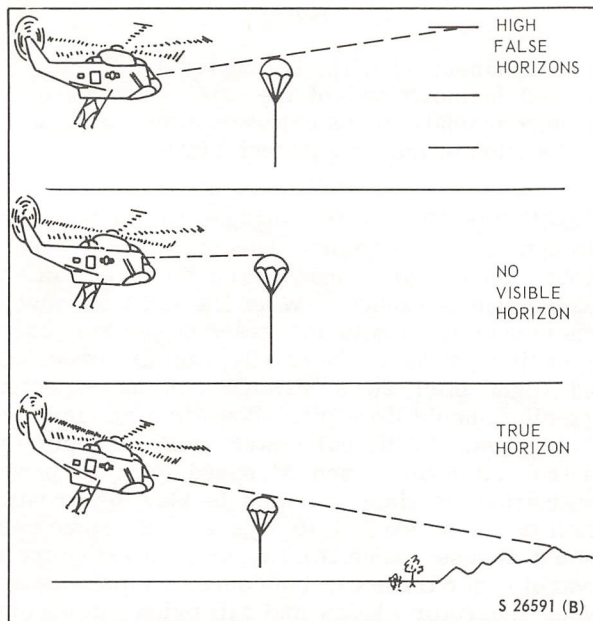

Figure 3-4. False Horizons
**FALSE HORIZONS.** Clouds, smoke, haze, mountains or other phenomena may present a non-existent, partial, or complete horizon which is not a true horizon based on the curvature of the earth. When these conditions exist, the pilot must use all available horizon references in his crosscheck to establish the desired approach angle to the engagement chute. Extreme difficulty may be experienced in judging the helicopter's exact position relative to the engagement chute until a few seconds prior to anticipated contact. Examples of these conditions are depicted in figure 3-4.